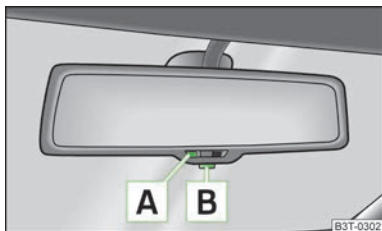

Fig. 50
- Press the button **B** » Fig. 50, the indicator light **A** lights up.